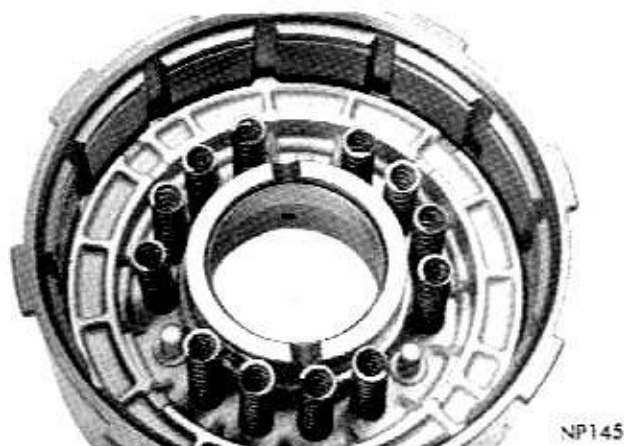

Fig. 61—Front Clutch Piston Return Spring Location (12 Springs)
(3) Refer to "Front Clutch Chart" and install springs on piston exactly as shown in Figures 61, 62, 63 or 64. Position spring retainer and snap ring over the springs. Compress springs with Tool C-3863 (Fig. 59), and seat snap ring in hub groove. Remove compressor tool.
(4) Lubricate all clutch plates, install one steel plate followed by a lined plate (disc) until the number given in the chart is installed. Install pressure plate and snap ring. Make sure snap ring is properly seated.